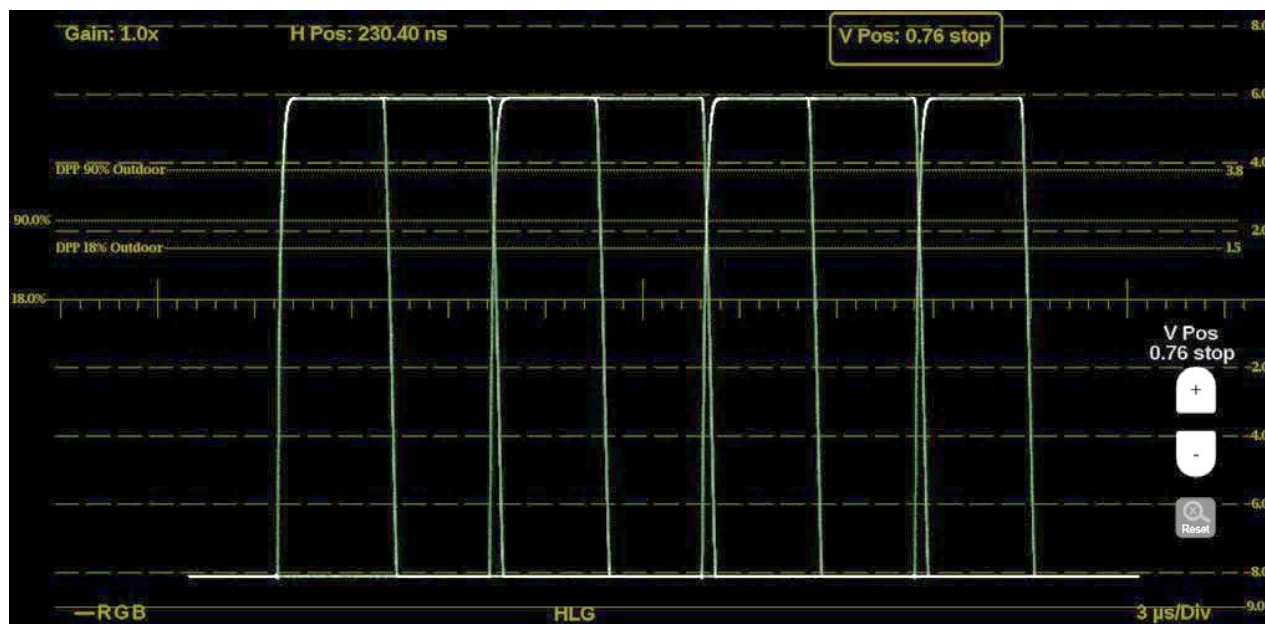

Figure 199: Stop Display on-screen tools – vertical position
2. Select **V Pos** to allow adjustment of the vertical trace. (See Figure 199.)